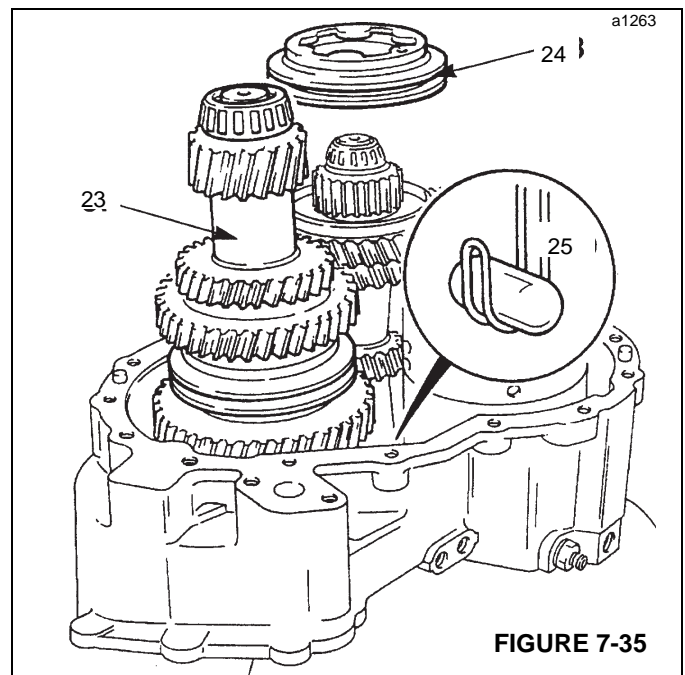

FIGURE 7-35
23. Pack output end bearing of layshaft (23, Figure 7-35) with grease, and carefully lower the layshaft into position.
24. Install 3rd/4th synchro-hub (24) correctly to mate with the cups.
25. Using a suitable wire support, locate plunger (25) into its bore. A small amount of grease will hold the plunger in position.